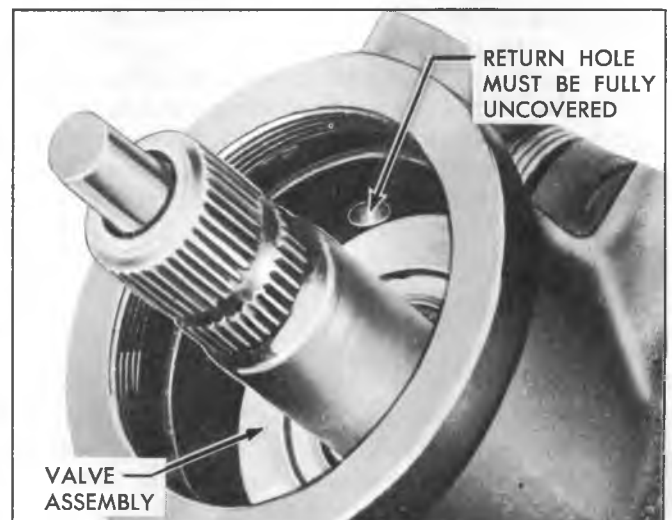

Fig. 34--Valve Assembly Properly Installed in Housing
**CAUTION:** Do not push against the stub shaft as this may cause the stub shaft and cap to push out of the valve body, allowing the spool seal to slip in the valve body oil grooves. The valve assembly should be pushed in by pressing against the valve body with the finger tips. Be sure the valve is properly seated before adjusting the adjuster plug assembly. The return port in the valve housing should be fully visible at this time (fig. 34).